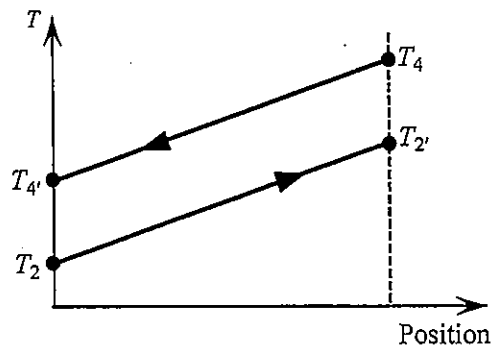

Figure 1-2
- (5) Derive the amount of the entropy generation in the heat-exchange process. Express the answer with  $C$ ,  $T_4$ ,  $T_2$ ,  $T_4'$ , and  $T_2'$ . Also, obtain the temperature efficiency  $\varepsilon$  for the maximum and minimum entropy generation, respectively. Note that, as shown in Figure 1-2, the temperature distributions for the hot and cold gases follow the straight-line profiles that are parallel to each other in the coordinate along the flow (opposite direction for the hot and cold gases).
- (6) Derive the theoretical thermal efficiency of this regenerative cycle when  $\varepsilon = 1$ . Express the answer using only  $\kappa$ ,  $\phi$ , and  $\tau$ .